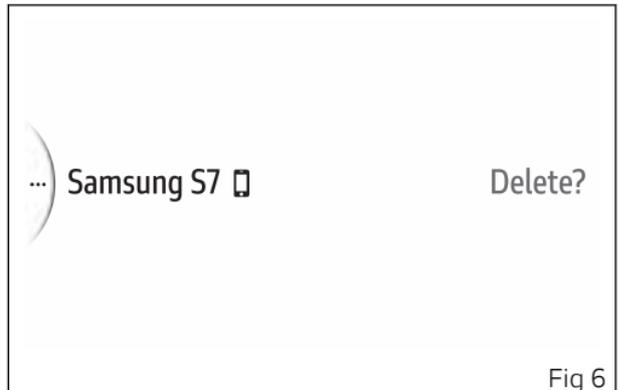

Fig 6
- Use buttons (1) and (2) from the Interactive Menu to select the "Setting menu" item and press ENTER (3).
- Select the "Bluetooth" item and press ENTER (3).
- Select the "Paired devices" item and press ENTER (3).
The paired devices are listed. Press buttons (1) and (2) to select the desired device and press ENTER (3). The message "Delete?" is shown on the right. (Fig 6) Press ENTER (3) to delete the selected device from the list: the message "Wait..." is displayed for a few seconds and then the list of paired devices is updated.